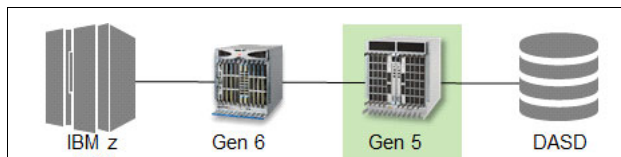

Figure 6-34 Sample mixed Gen 5 and Gen 7 cascaded fabrics
- ▶ It is unlikely that other fabric parameters are different; however, if switch generations must be mixed in the same fabric (see Figure 6-34), contact your technical account team to validate all fabric settings.